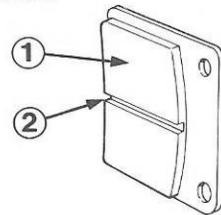

Fig. 40 ① Brake Pad ② Wear Groove
- The pads are worn to the bottom of the groove (Figure 40).